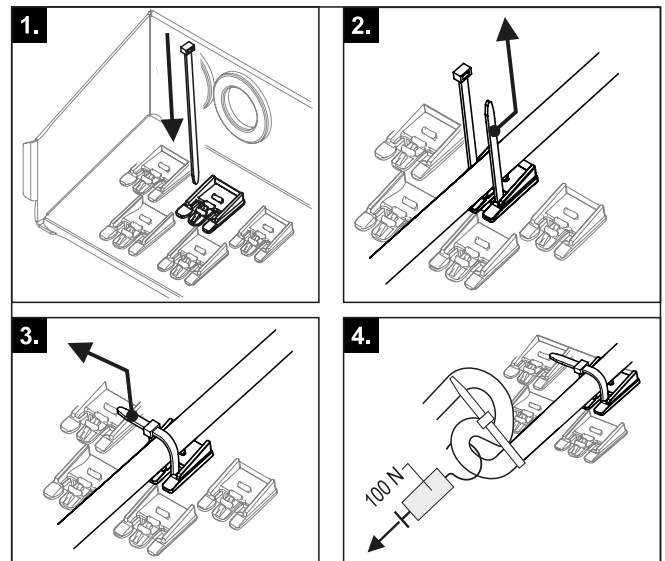

Fig. 3-37 Establishing and checking the strain relief
- 7 Effective strain relief in the controller housing by means of cable ties must be ensured for all cables connected to the indoor unit (steps 1 – 3, Fig. 3-37).
- 8 Check the holding force of the strain relief (step 4, Fig. 3-37).